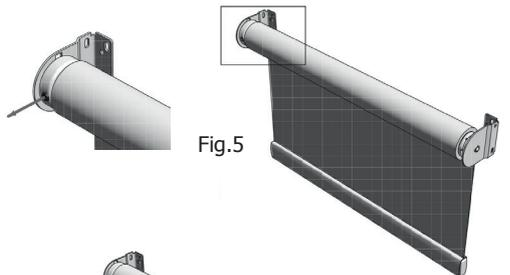
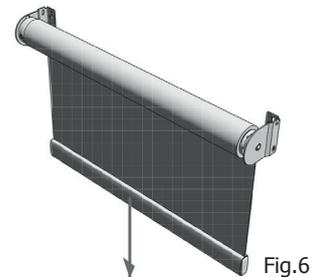

Fig.5
Fig.6
2. Gently remove the blind from the brackets and roll back up by hand, then replace it back into the brackets and release the pin (Fig.5) and pull down to the drop (Fig.6), then test to see if the blind returns to the top.